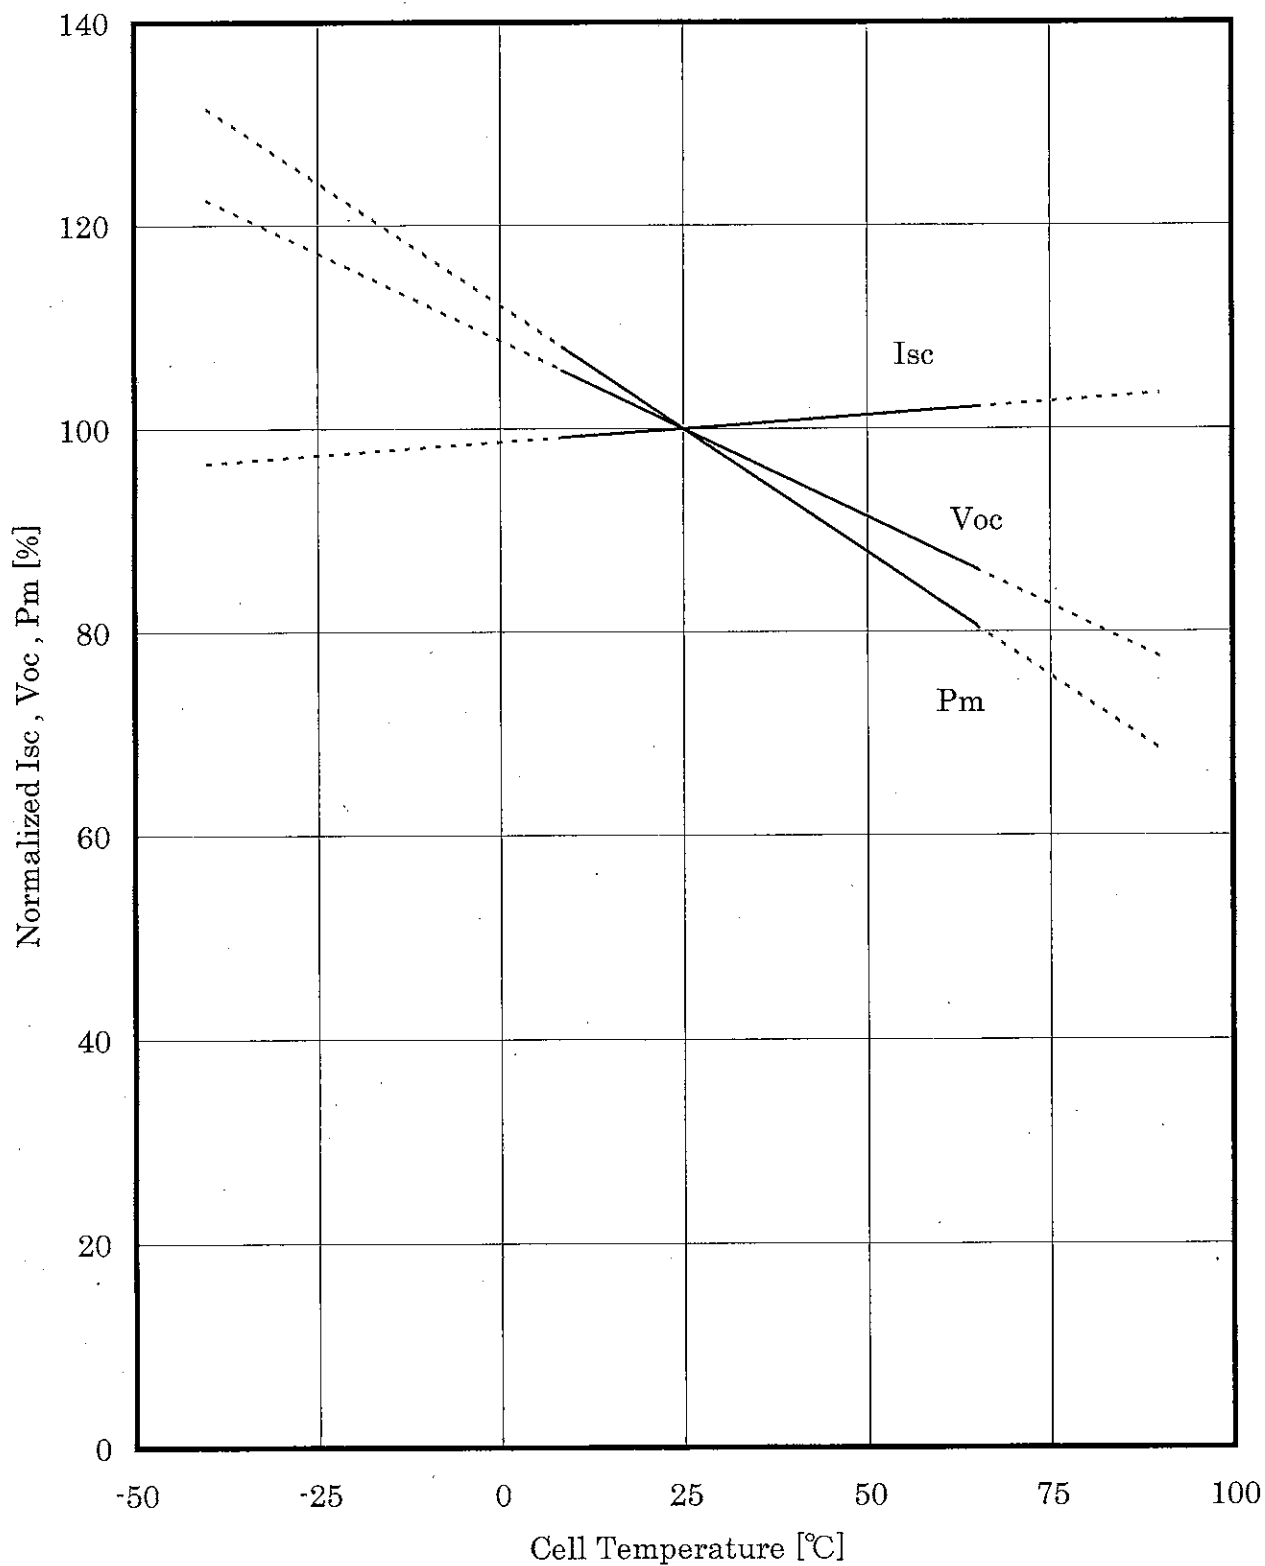

Fig. I -3 Normalized Isc , Voc , PM vs Cell Temperature Characteristics
- (3) Fig. I -3:Normalized characteristics regarding Open circuit voltage ,Short circuit current and Maximum power versus Cell temperature